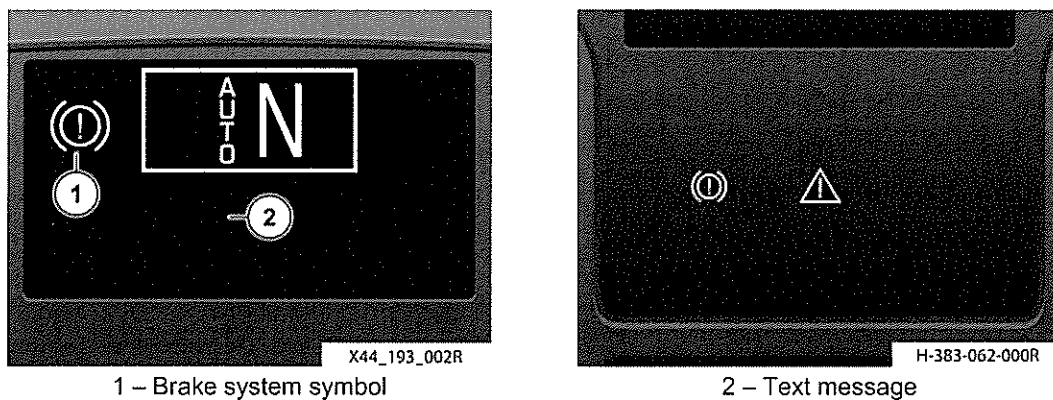

Fig 1 EBS malfunction display
6 Refer to Fig 1. In the event of an EBS malfunction, a brake system symbol (1) will be displayed and a text message will appear in area (2) on the driver's display.